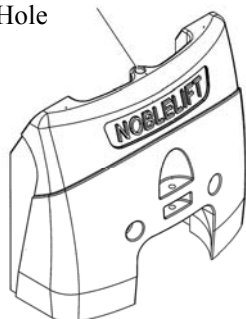

Figure 2-44
(3) Hoisting for Balance Weight See Figure 2-44